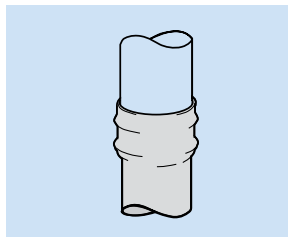

Fig. 70
- When the socket has shrunk down to the adjoining spigot, and the captured seal ring has created a raised ridge, stop applying heat (Fig. 70).